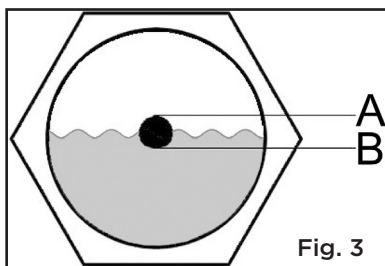
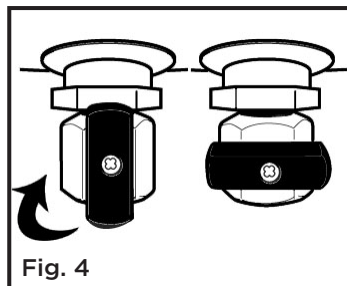

Fig. 3
Fig. 4
1. Check the level of oil in the pump with the sight glass. The pump oil level must be between A and B (Fig. 3). Do not overfill or underfill.
3. Turn the pressure switch to the OFF position (A).
4. Open the drain valve (C) by turning it counterclockwise.
5. Turn ON the main power disconnect switch. Turn the pressure switch to the ON position (B). The motor should start. Allow the compressor to run for 30 minutes, to break in the internal parts. (Fig. 4)
3. Drain tank of moisture after each day's use. Leave the drain valve open until the next time it is used. This will allow moisture to completely drain out and help prevent corrosion on the inside of tank (Fig. 4).